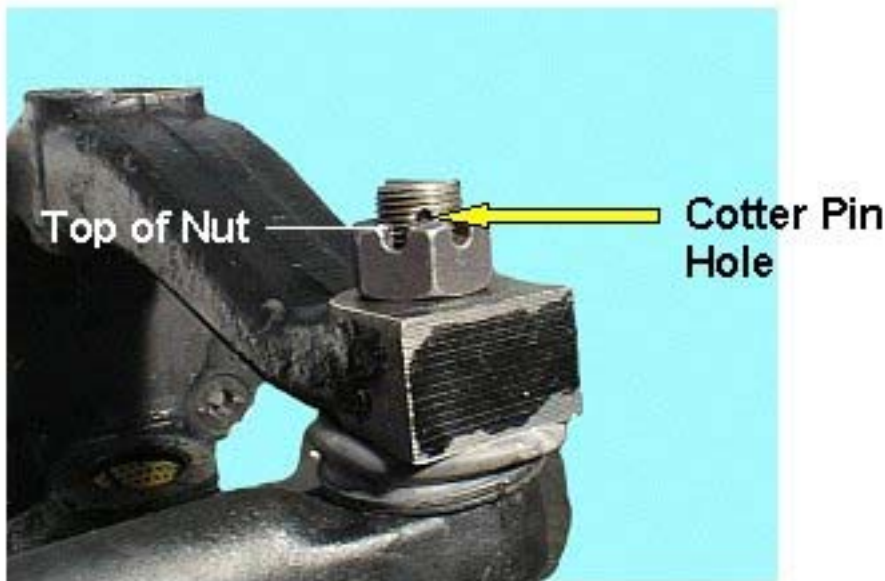

Figure 1 Figure 1
4. Inspect the position of the castle nut relative to the cotter pin hole in the drag link ball stud. If the cotter pin hole in the drag link ball stud is above the top of the castle nut (as shown in figure 1) the **steering knuckle needs to be replaced**.